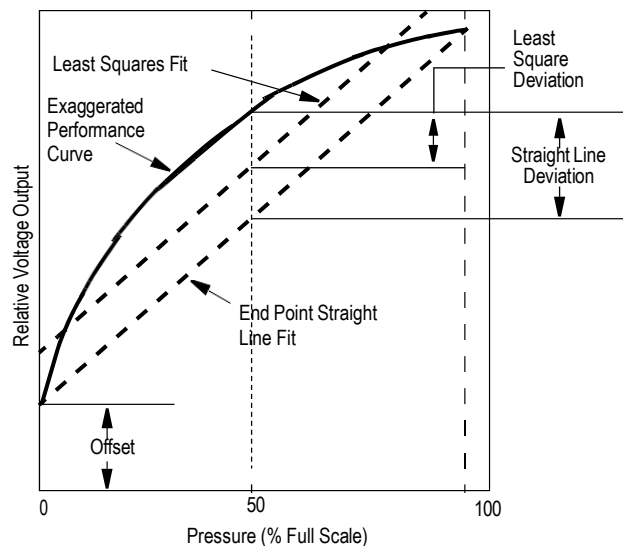

Figure 4. Linearity Specification Comparison
Linearity refers to how well a transducer's output follows the equation: $V_{out} = V_{off} + \text{sensitivity} \times P$ over the operating pressure range. There are two basic methods for calculating nonlinearity: (1) end point straight line fit (see Figure 4.) or (2) a least squares best line fit. While a least squares fit gives the "best case" linearity error (lower numerical value), the calculations required are burdensome.